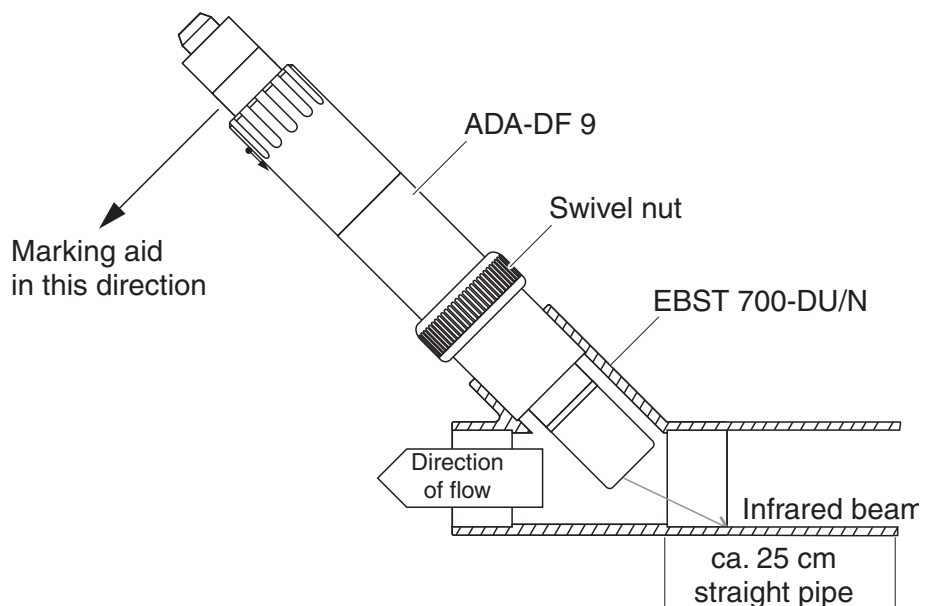

Fig. 3-5 Total suspended solids sensor in the pipe with EBST 700-DU/N flow-thru adapter
Fig. 3-5 shows the installation of the EBST 700-DU/N flow-thru adapter for installation in a pipeline (DN 50). The infrared beam points in the opposite direction to the direction of flow. The marking on the sensor points towards the pipeline (see Fig. 3-5).
- 3 Install the sensor in the flow-thru adapter with the aid of the ADA-DF 9 adapter (see operating manual of the adapter). To ensure the correct position, loosen the coupling ring on the EBST 700-DU/N somewhat and align the marking aid as shown in Fig. 3-5. Then, tighten the coupling ring.